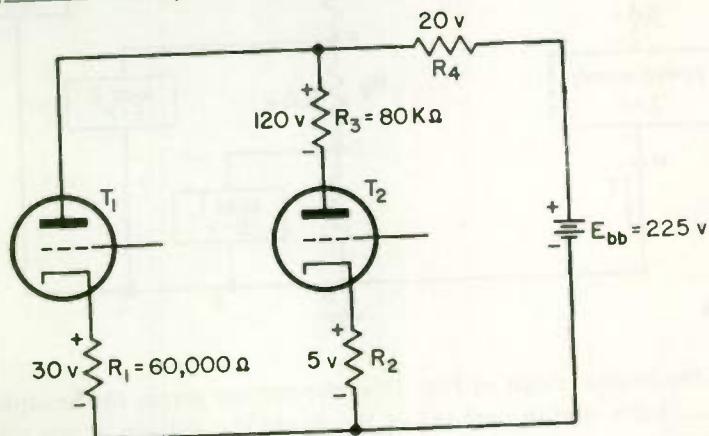

Fig. 24
12. The plate voltage of a tube is the voltage measured by a voltmeter connected between plate and cathode. The plate voltage of tube T_1 in Fig. 24 is (a) _____ volts, and the plate voltage of tube T_2 is (b) _____ volts.
13. The resistance of R_2 in Fig. 24 is (a) _____ ohms. The resistance of R_4 is (b) _____ ohms. (Assume the grids of the tubes draw no current.)